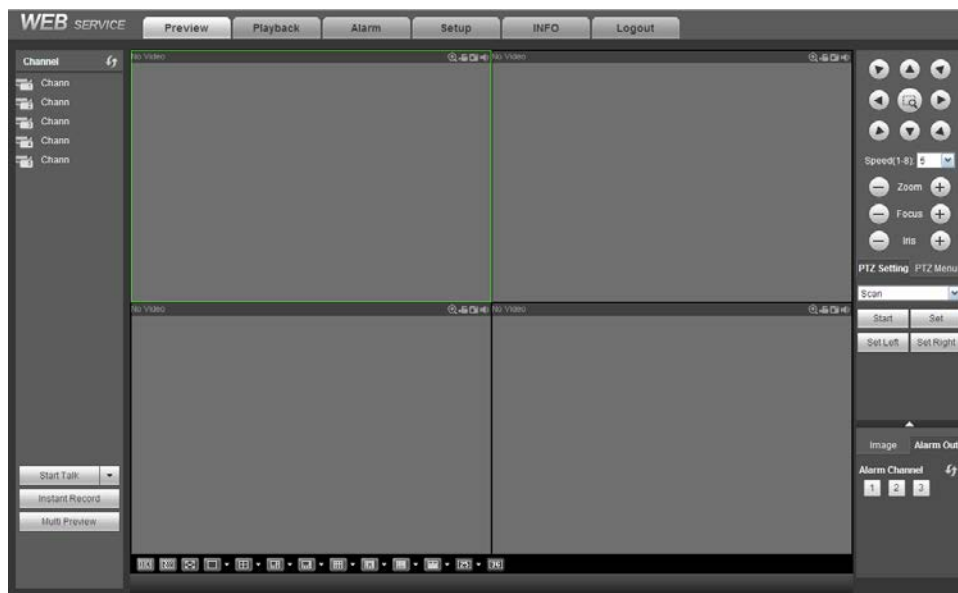

Figure 4-12
- 2) You can select different channels and different monitor modes at the bottom of the interface. See Figure 4-12.